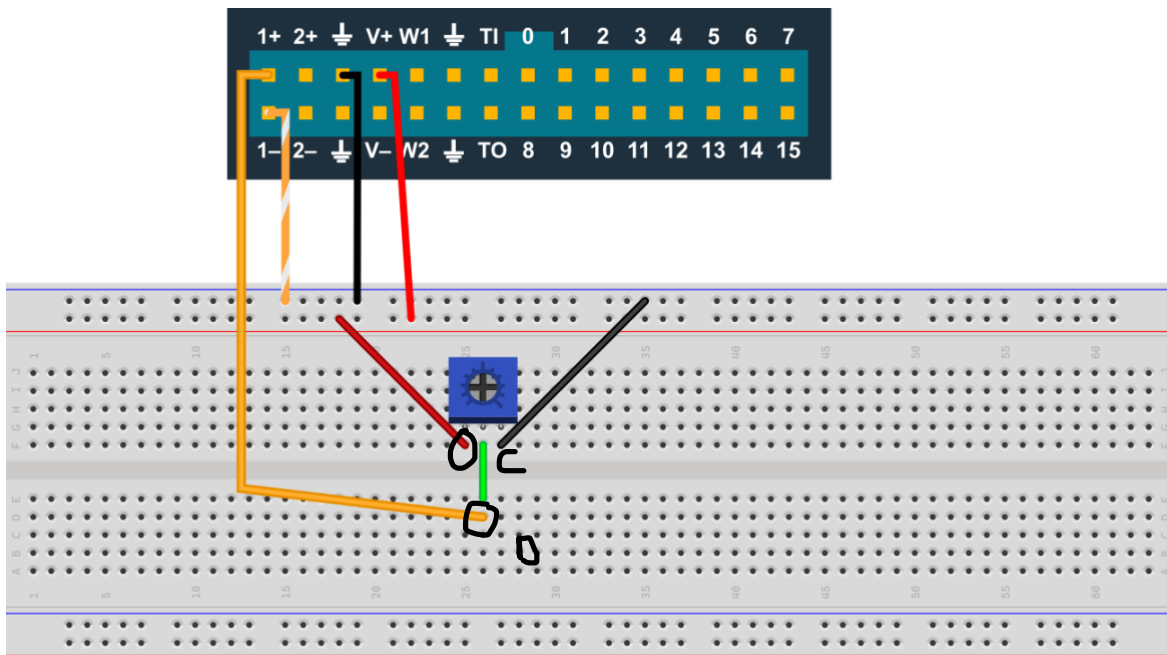
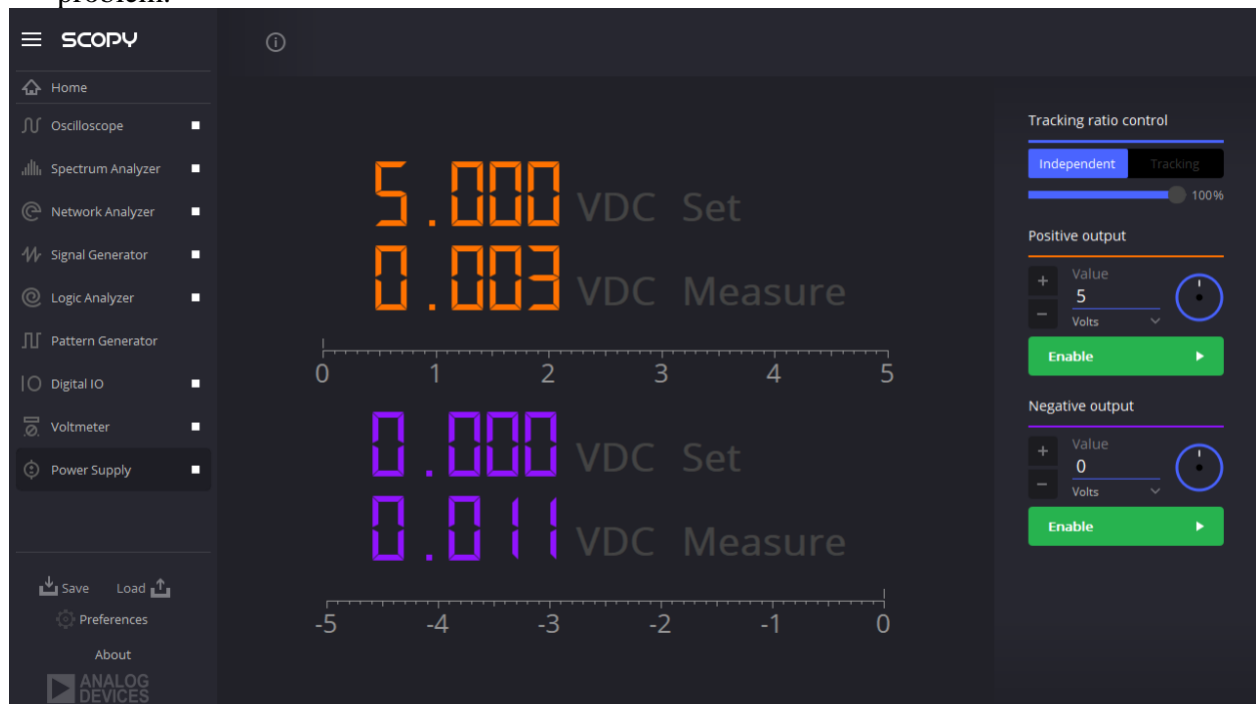

Figure 10. Diagram of circuit for exercise 2
Figure 11. Scopy Power Supply Settings
1. Connect the ADALM to your computer, open Scopy, and then build the circuit illustrated below. The blue square in Figure 10 is a depiction of the potentiometer shown in Figure 9.
- In Scopy, click on the Power Supply tab then apply the settings shown in Figure 11. Set the Positive output to 5V by typing “5v” and pressing Enter (Or use the dial or the “+” and “-” buttons). **Don’t enable the output until you are certain your wiring is correct** based on Figure 10. Once you enable the output in a later step, if the VDC Measure voltage is not close to 5 volts, your circuit is using too much power and has a wiring problem.
3. In Scopy, click on the Voltmeter tab then apply the settings shown in Figure 11. On the righthand side, under Channel 1, select DC (Direct Current), set Range to Auto, turn off History. To test that your voltmeter is working properly, if you measure the value CD (voltage at C - voltage at D). To do this, connect your 1+ pin (orange wire voltage probe) to point C and your 1- pin (orange wire with white stripe voltage probe) to the middle pin of the potentiometer. Click **Enable** on the Positive output of the Power Supply tab. Then click **Run** on the top right of the Voltmeter to measure the voltage. If the voltage reading changes when you turn the potentiometer, it is working properly.